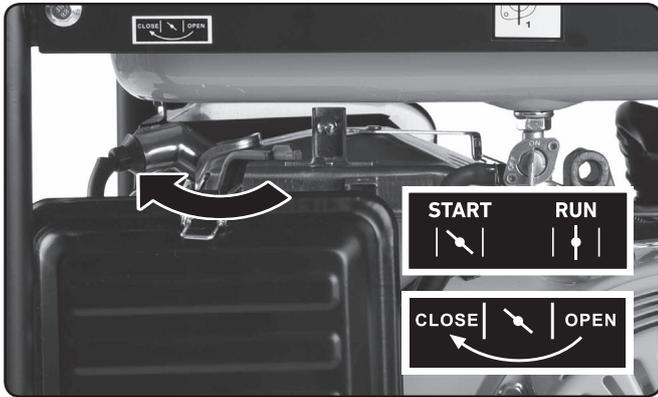

Fig. 16, setting the choke lever to the "start" or "close" position according to the label.
**9. Set the choke control lever to the "start" or "close" position according to the text on the label that is located on the machine, see fig. 16.**